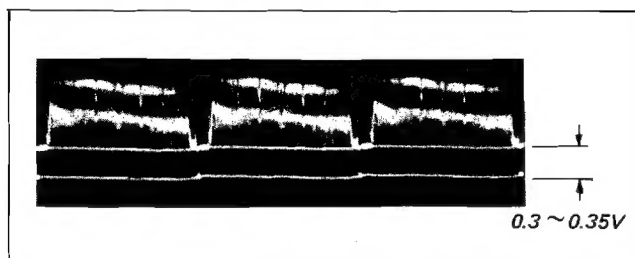

Fig. 9-1.
2. Adjust R53 on the PA-1 Board so that the sync level shown in Fig. 9-1 is $0.3 \sim 0.35$ V.